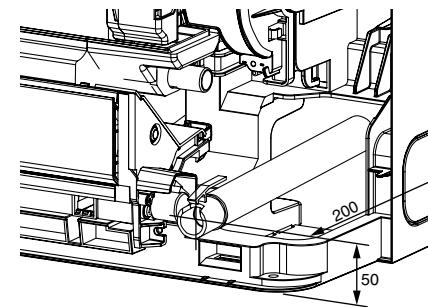

Fig. 8
- When routing the drain piping, make sure that the drain hose ① is routed as shown. (Fig. 8)